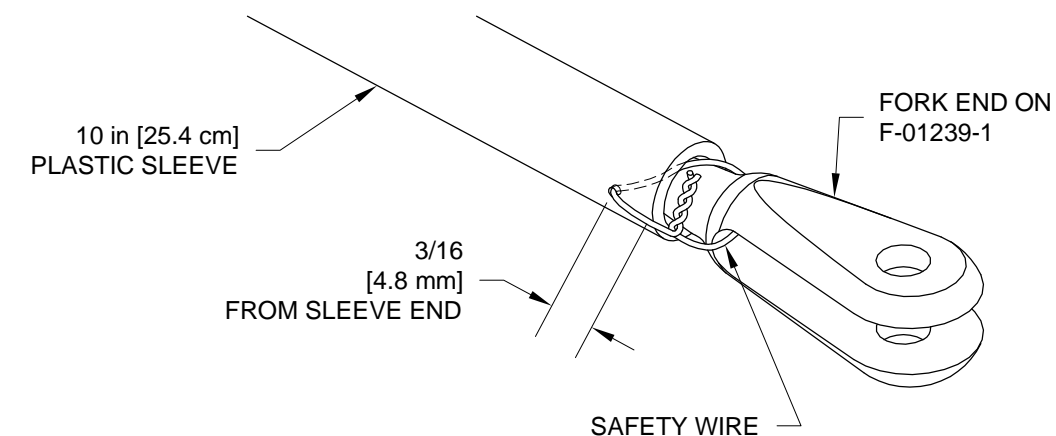

FIGURE 2: SAFETY WIRING THE RUDDER CABLE AFT PLASTIC SLEEVES
Step 3: Drill #40 both of the 10 in. [25.4 cm] plastic sleeves on the aft end of the rudder cables as shown in Figure 2.